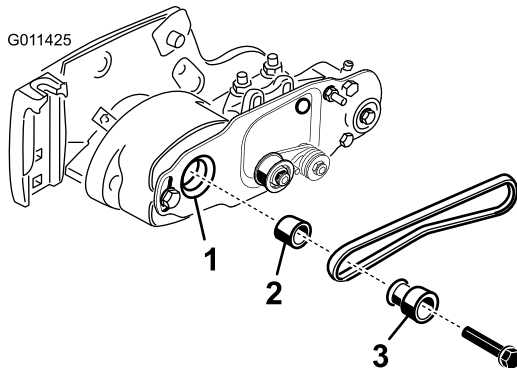

Figure 16
4. While rotating the reel, which will rotate the drive pulley, pry the belt off the drive pulley (Figure 16).
5. Remove the bolt securing the roller brush drive pulley to the bearing housing shaft (Figure 16).
6. Remove the roller brush drive pulley and the spacer from the shaft (Figure 16).